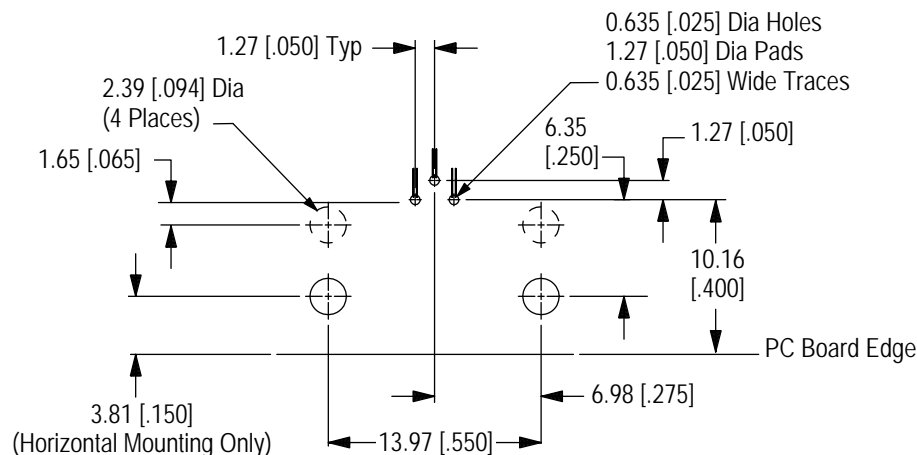

Figure 2
1. Prepare the pc board using the recommended footprint dimensions given Figure 2. Maximum panel thickness is 1.575 mm [.062 in.].
- Modified Paragraphs 3.1 and 3.2, and Figures 2 and 3